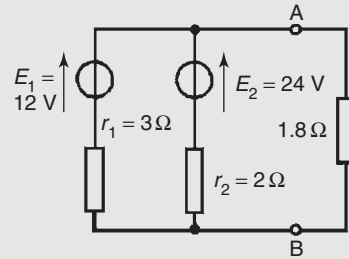

Figure 13.72
Problem 20. (a) Convert the circuit to the left of terminals AB in Fig. 13.72 to an equivalent Thévenin circuit by initially converting to a Norton equivalent circuit. (b) Determine the current flowing in the $1.8\ \Omega$ resistor.
- (a) For the branch containing the 12 V source, converting to a Norton equivalent circuit gives $I_{SC} = 12/3 = 4\text{ A}$ and $r_1 = 3\ \Omega$. For the branch containing the 24 V source, converting to a Norton equivalent circuit gives $I_{SC2} = 24/2 = 12\text{ A}$ and $r_2 = 2\ \Omega$. Thus Fig. 13.73(a) shows a network equivalent to Fig. 13.72